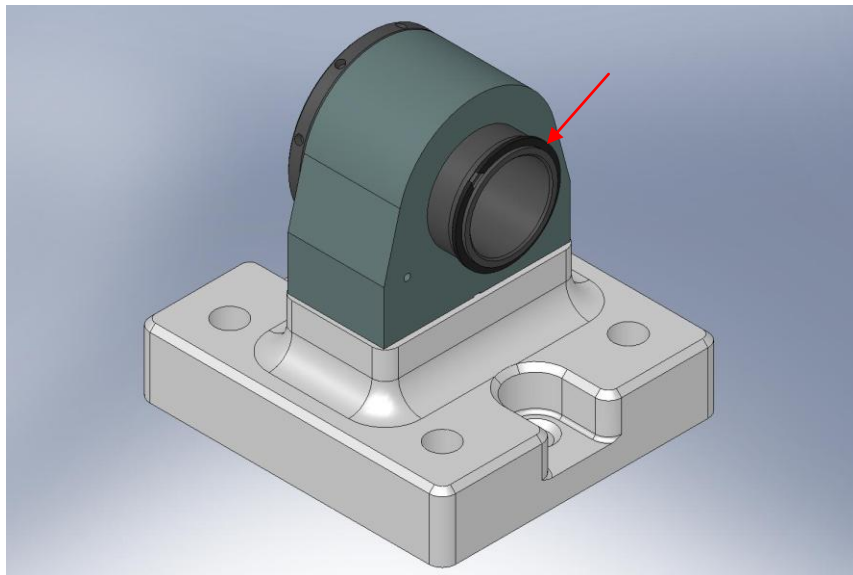

Figure 2.15. Retaining ring in groove on back of Locker Sleeve.
- Clip retaining ring (Smalley FSE-0175-S02) over groove at the end of the **Locker Sleeve**, as shown in Figure 2.15.